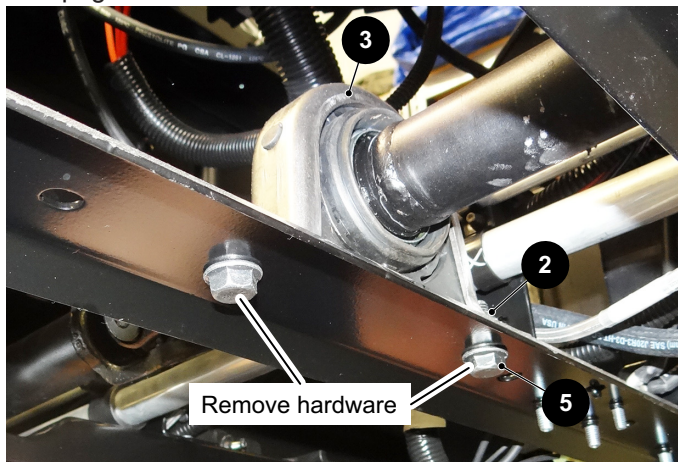

Fig. 2 Mid-Shaft Bearing
5. Remove the nut (4) and bolt (5) securing each side of the mid-shaft bearing (3) to the frame (Ref. Fig. 1) (Ref. Fig. 2).